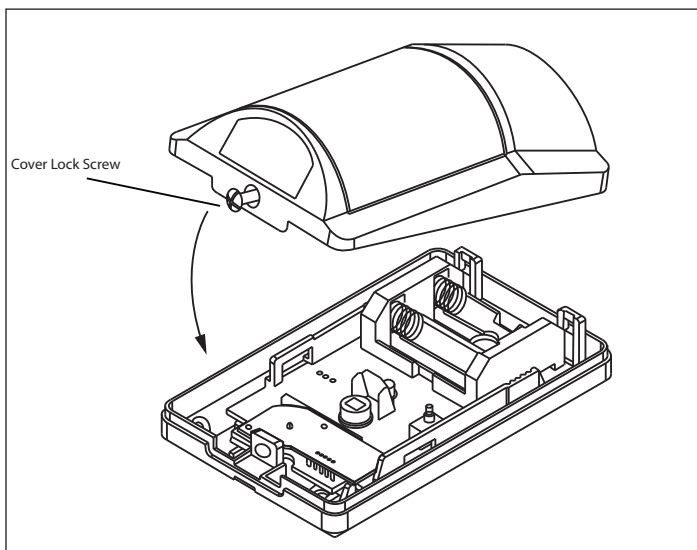

Figure 1: Remove the Cover
1. Remove the front cover from the detector. Refer to Figure 1.
1. Remove the front cover. See Figure 1.